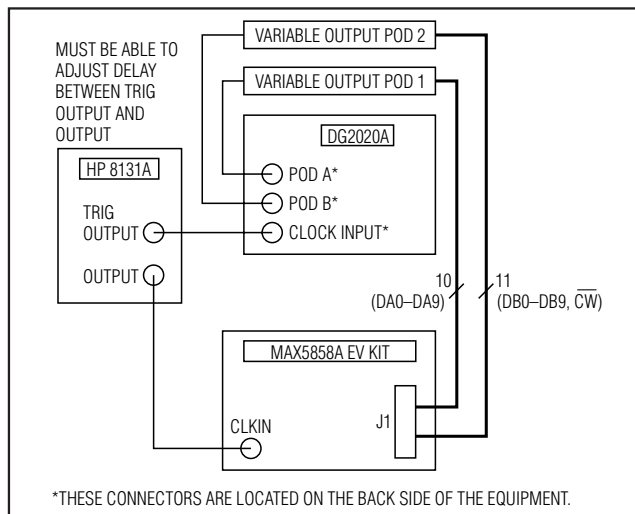

Figure 2. Quick Start Setup for PLL Enabled Mode
Caution: Do not turn on power supplies or enable signal generators until all connections are completed (Figure 2).
- 8) Connect the TRIG OUTPUT (clock synchronize signal) of the HP 8131A to the clock input on the back side of the data generator (Sony/Tektronix DG2020A). See Figure 2 for the equipment setup connections.
- 11) Connect data generator POD A to the first variable output POD (1). Connect output channels CH9 through CH0 of the variable output POD 1 to the MAX5858A EV kit connector J1, as indicated in Table 10.
- 12) Connect data generator POD B to the second variable output POD (2). Connect output channels CH9 through CH0 of the variable output POD 2 to the MAX5858A EV kit connector J1, as indicated in Table 11.